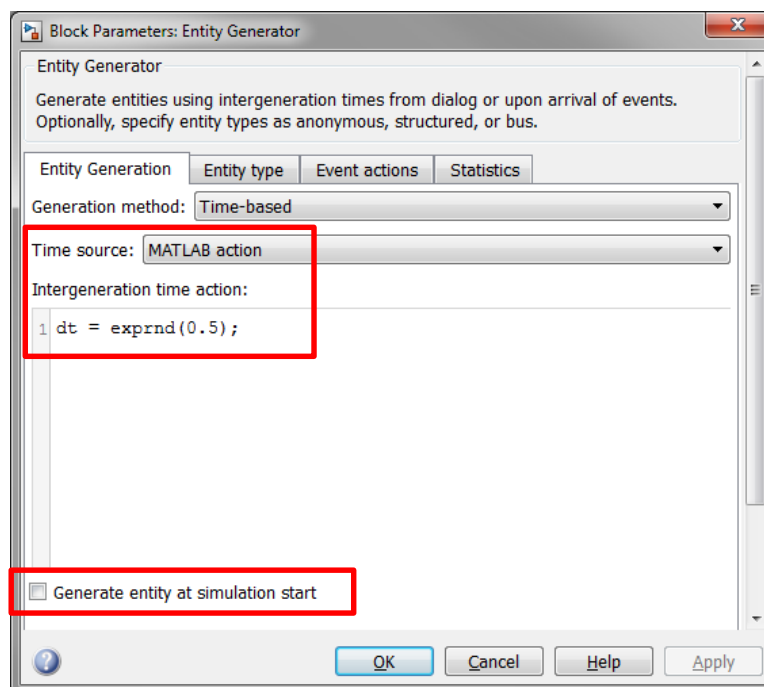

Figure 7: Non-deterministic Intergeneration Time
4. In the "Intergeneration time action" box, change the MATLAB action to define 'dt' from an exponential distribution with mean of 0.5, as shown in Figure 7.